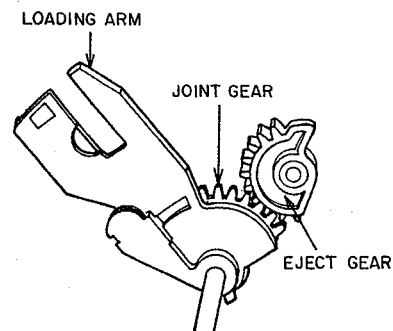

Fig. 3-16
- 1) While covering SENSOR (S) with your fingers, connect the AC power plug to the AC socket. The FRONT LOADING SLIDER will reach the "EJECT" position. Then disconnect the AC power plug from the AC socket before you release your fingers from SENSOR (S).
- 2) Install the LOADING ARM BLK in the reverse order of 3-1-2 (Removal of the LOADING ARM BLK). Position the EJECT GEAR and the JOINT GEAR as shown in Fig. 3-16.